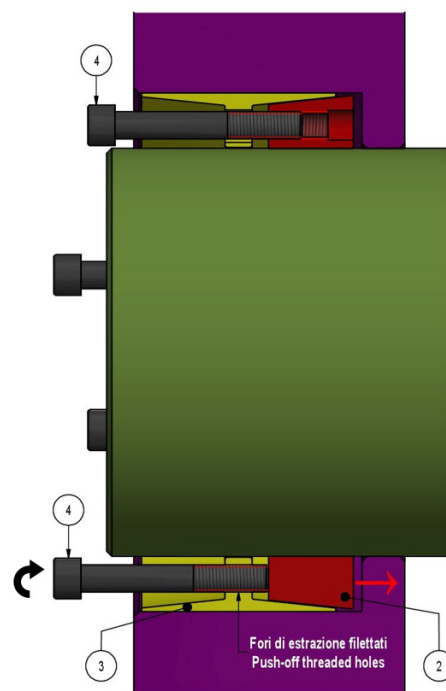

Fig. 5
3. Transfer some screws into all push-off threaded holes in the outer ring. **Progressively tighten these screws in a crosswise pattern, using approx. ¼ turns for several passes** until the rear thrust ring is released (fig. 5). Start with a screw located at 90° approx. respect to slit; screws adjacent to slit shall be tightened in a row.